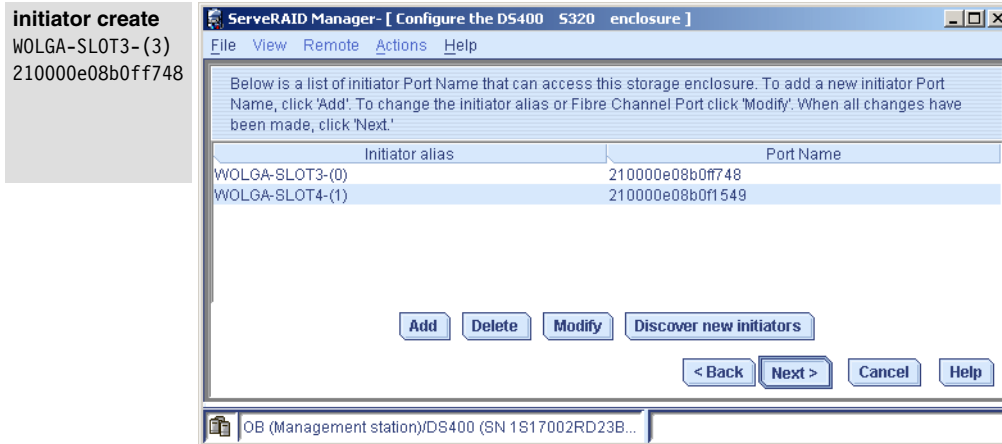

Figure 4-110 List of defined initiators
26. In Figure 4-110 on page 144, the **Add** button permits definition of initiators manually. Initiators can be deleted with **Delete**. Click **Next**.